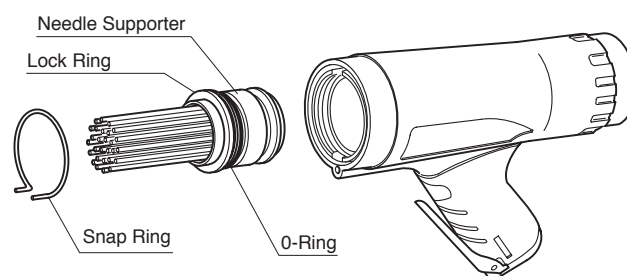

Fig. 12
- (2) Remove the Snap Ring by pinching the projected hooks.
- (3) Then you can take off the Needle Supporter together with other parts by pulling out the edge of Needles. (Fig. 12)